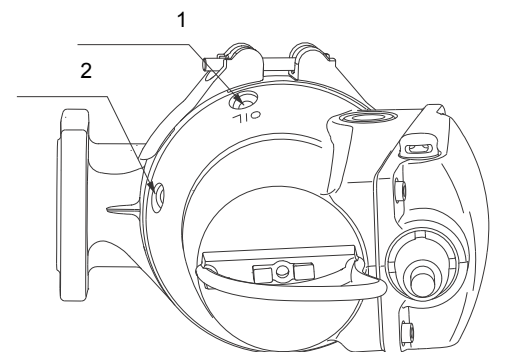

Fig. 6 Oil screws
See fig. 6.
- Place the pump in such a position that it is lying on the stator housing and the outlet flange with the oil screws pointing upwards. See fig. 6.
- Fit the gaskets (194) and both oil screws (193). Tighten the screws. See section 8. Torques and lubricants.